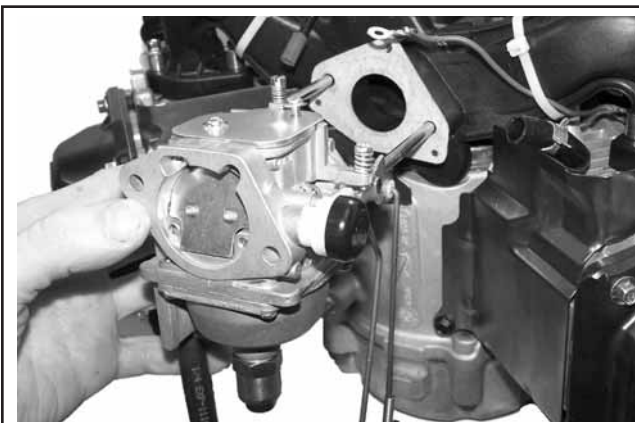

Figure 8-17. Removing Carburetor.
4. Remove the carburetor, throttle linkage and governor lever as an assembly. See Figure 8-17.